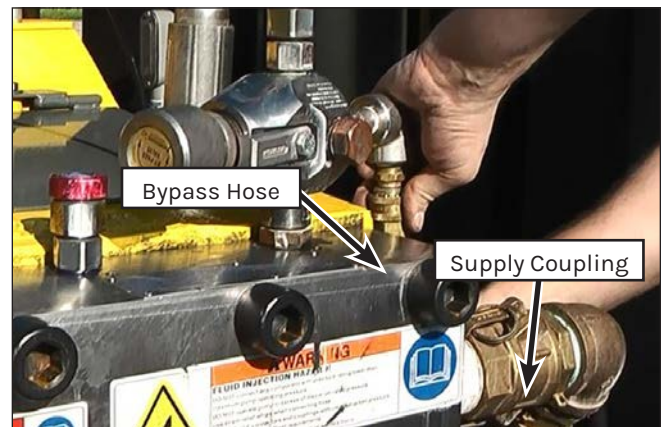

Figure 76: Connecting Bypass Hose and Supply Coupling.
26. Connect the supply coupling (Figure 76) and the bypass hose to the manifold.